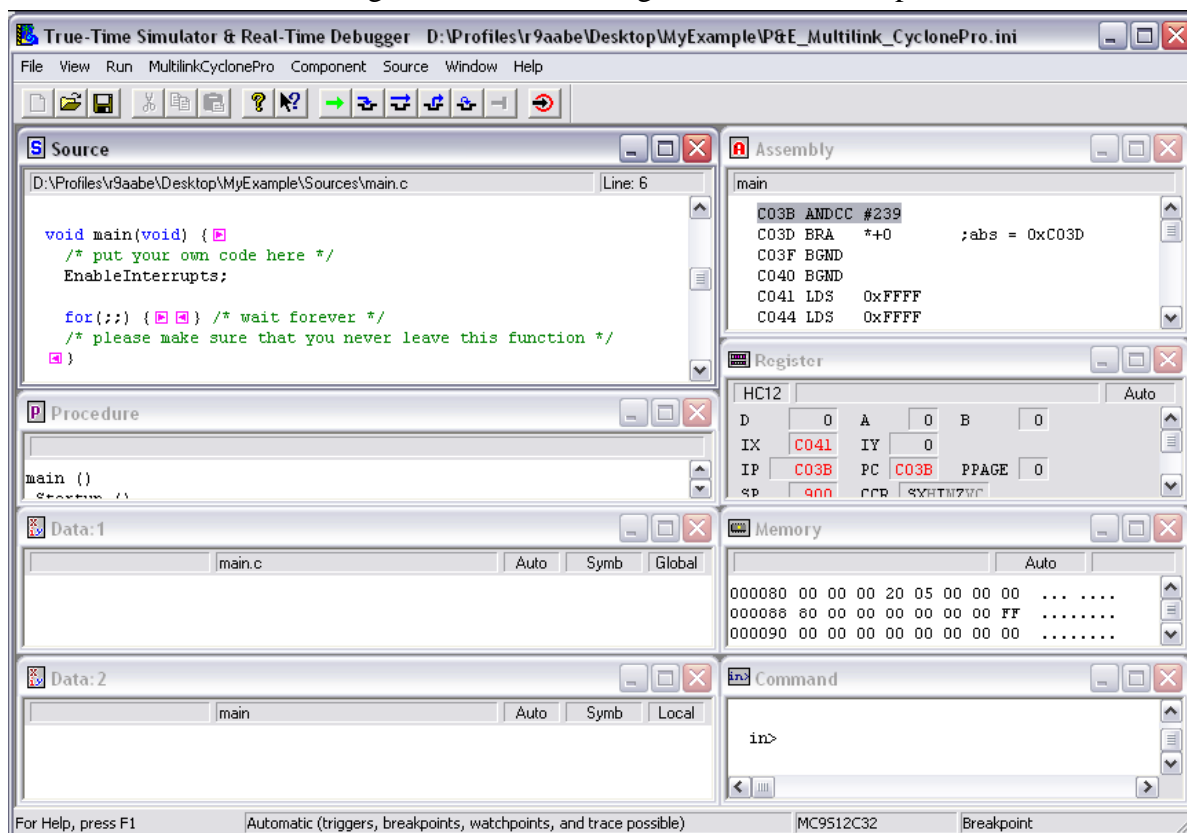

Figure 15. CodeWarrior Debugger Window
- d) Once the debugger is launched a window similar to Figure 15 will appear. The operation of the various subwindows is listed in Table 3 on the subsequent page. The configuration of sub-windows can be user configured and saved using File->Save Workspace